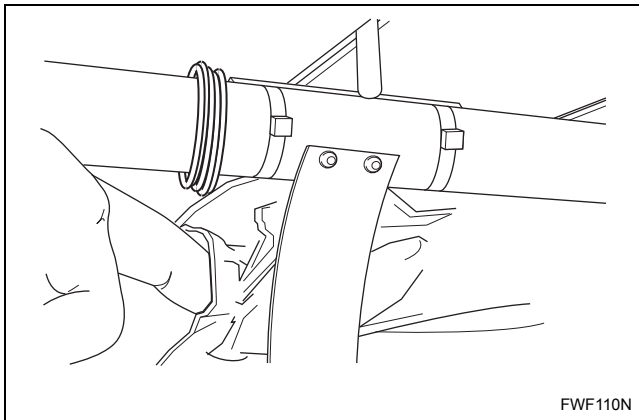
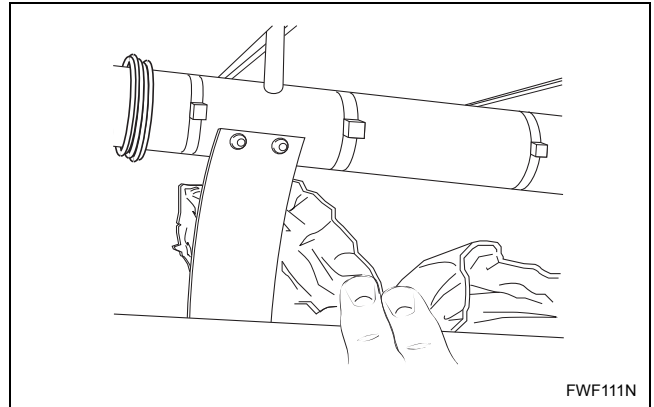
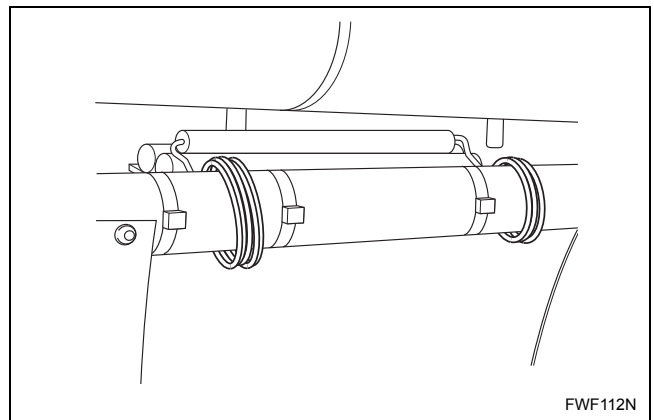

Figure 13
Figure 14
Figure 15
- b. Remove protective paper manually. Be especially careful around separation blade and temperature sensor. Refer to *Figure 13*, *Figure 14* and *Figure 15*.